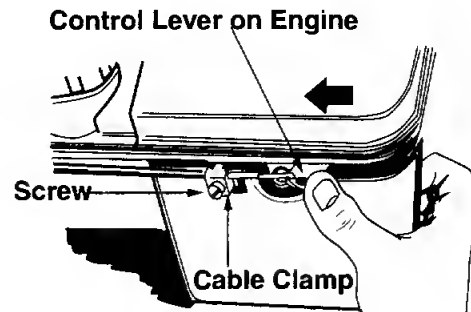

Figure 17
- Remove the screw shown in figure 17. Remove the cable clamp from the cable.
- Push the control lever on the engine as far toward the rear of the engine as it will go. Secure the cable in this position with the cable clamp and screw. See figure 17.